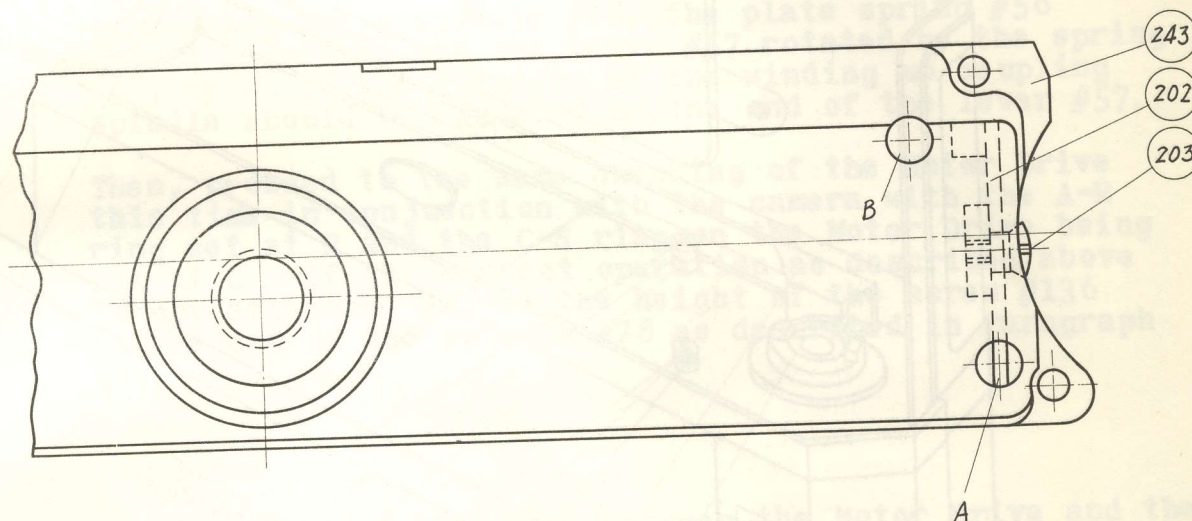

Fig. 5 - 1
- (1) First check if the "Q-Assembly" (a part provided with a tripod socket) in the camera is the one which operates the Motor Drive or not. If it is not, replace it with the correct one. The bottom plate #243 can be identified by two holes as shown in Fig. 5 - 1 and a see-saw shutter release lever #202 inside.